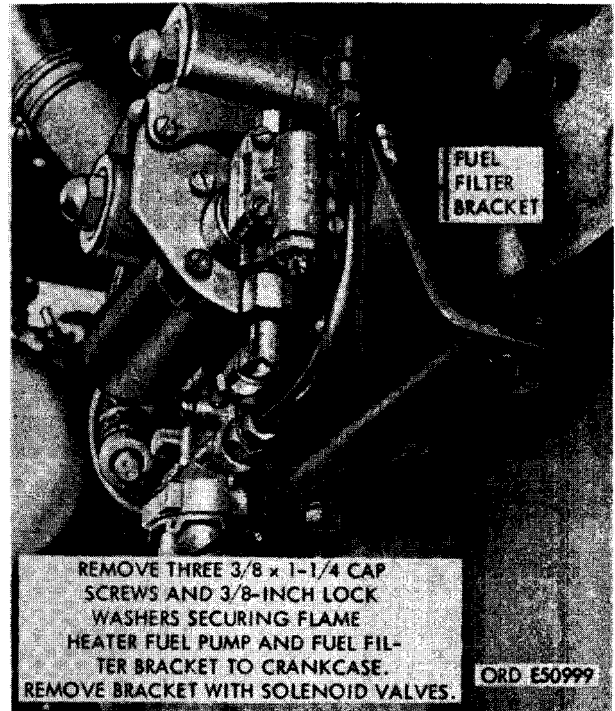

FIGURE 144. REMOVING OR INSTALLING FLAME HEATER FUEL PUMP AND FUEL FILTER BRACKET.
- (2) Refer to figure 144 and remove flame heater fuel pump and fuel filter bracket.